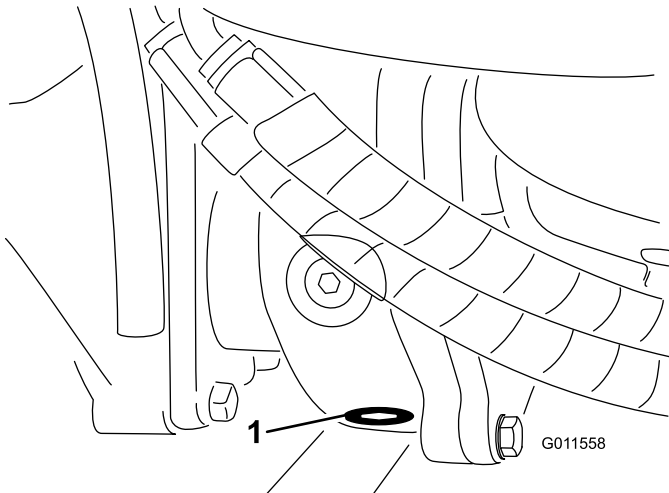

Figure 61
5. Clean the area around the drain plug on the bottom of the gear box (Figure 61).